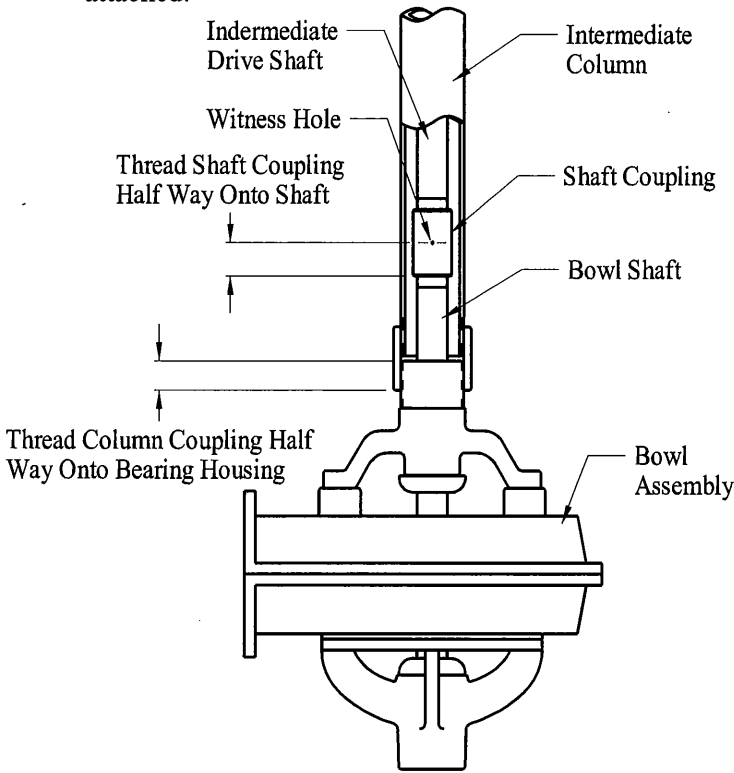

FIGURE 3.
- Adjust the bowl shaft until the shaft end meets the lower end of the bearing in the bottom bearing housing, as shown in Figure 3.
6. Thread one shaft coupling onto the bowl shaft until the coupling is threaded halfway on the shaft. Use the witness hole in the shaft coupling to assure that the coupling is half way on the bowl shaft. See Figure 3.